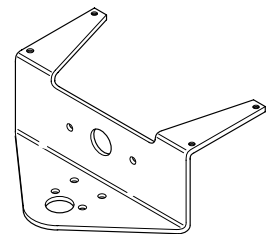

FIGURE 1
3. To under counter mount, choose a mounting surface that will support the weight of the unit. Using mounting bracket DCI part #4274 (not included), mount to underside of counter utilizing the four predrilled holes and appropriate fasteners (see Figure 1). Mount the back chassis assembly to the control unit using the appropriate fasteners.